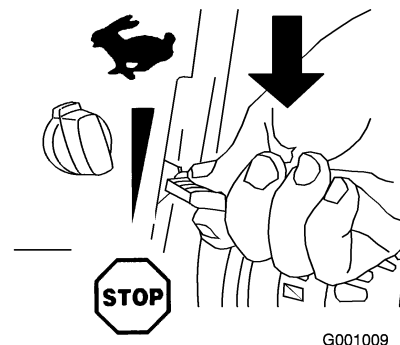

Figure 26
1. Move the throttle to the Stop position (Figure 26).